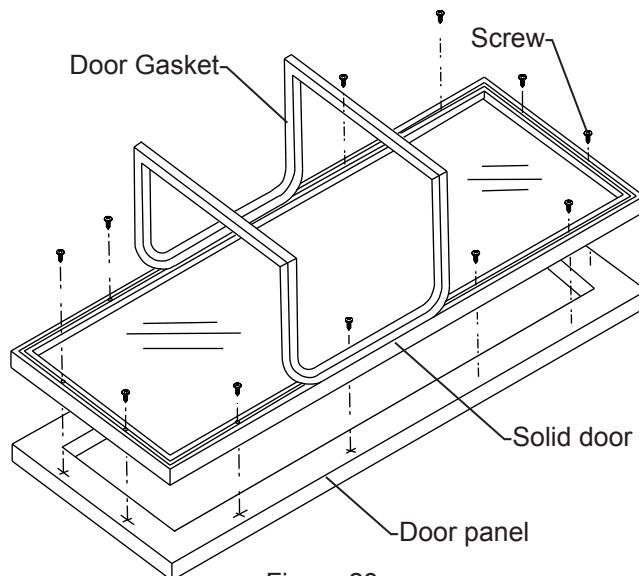

Figure 28
1. A #10 pan head wood screw should be used to properly secure the overlay panel (See Figure 28). Screws are supplied with unit.
1. Remove the gasket from the door front. (See Figure 28). Do this by pulling the gasket out of the channel that holds it to the door front. This will expose the clearance holes for mounting the custom overlay panel. (See Figure 28).
2. Set the door on the overlay panel and align edges. (See Figure 28). Clamp panel in position and mark pilot hole locations. Pick the required pilot hole size from "Table E" below and drill the pilot holes ensuring not to drill all the way through the overlay panel.